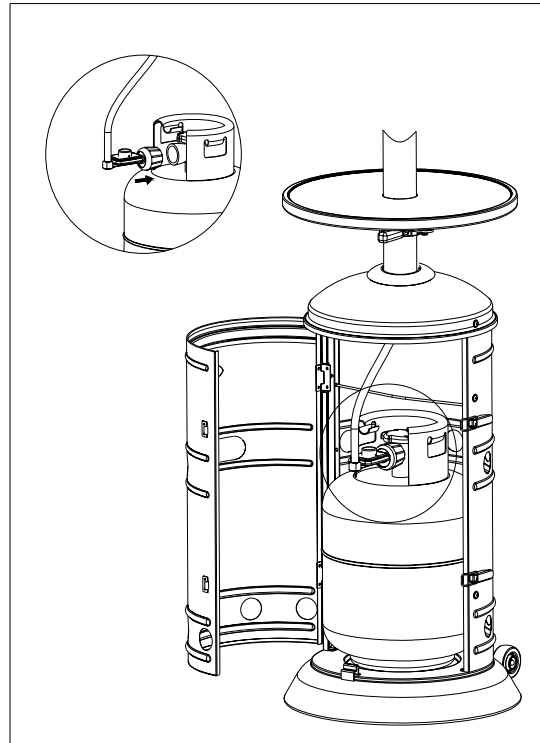

Fig. 12
12. Attach Cylinder Restraint Chain (K) to fix the cylinder. (Fig. 12) and close the door after assembly.